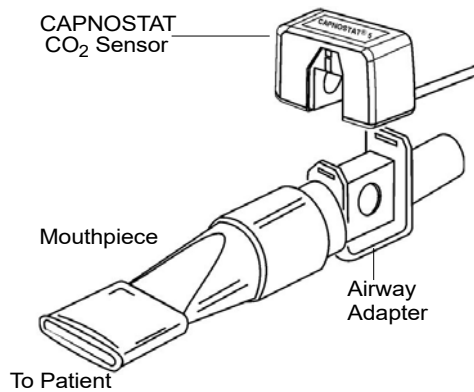

Figure 3
b. Press the sensor and airway adapter together until they click (see Figure 3).